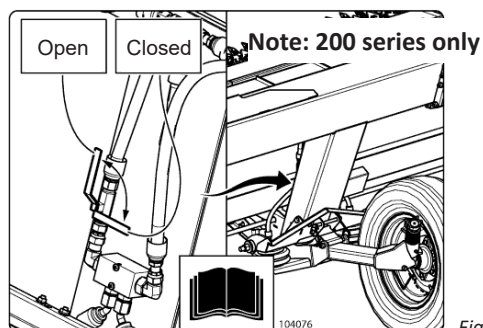

Fig. 10
3. Set header to RIGID mode. Raise header off the ground and pressurize to an appropriate value for the header width (see table in section 7.3), close the gauge wheel isolation valves (see Fig. 10) then proceed to section 8 on page 10.
3. Close both gauge wheel isolation valves (see Fig. 10.)
3. Open both gauge wheel isolation valves (see Fig. 10.)